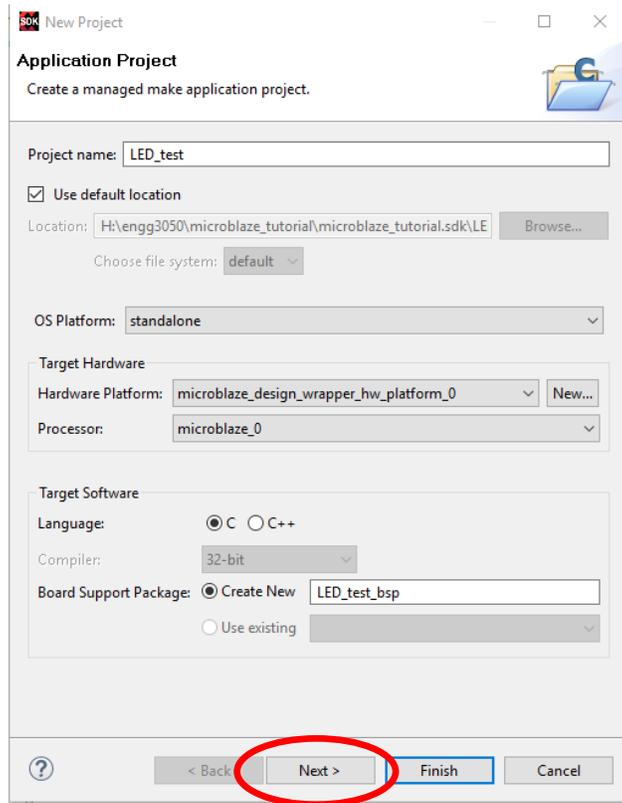

Figure 15: Creating a new Application Project in SDK.
- The *New Project* dialog window will open. In the *Project Name* field, enter **LED_test**. Leave the other options as default, as shown in Figure 15. Click *Next >*. Do not click Finish.